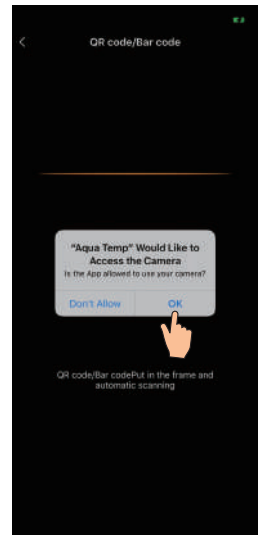

Fig.15 Scanning interface
- Click "OK" (Fig.15) to allow the App to use the camera for scanning the **WF barcode** on the heat pump unit (Fig.16);